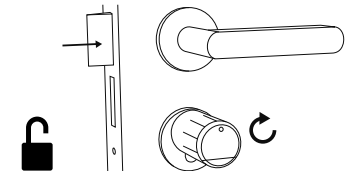
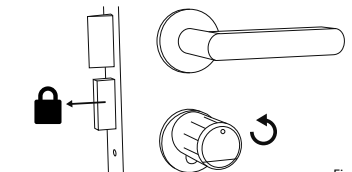

Fig. 85
Fig. 86
- 3 When the number combination entered is correct, the cylinder status symbol (⊙) will illuminate and the door can be unlocked (Fig. 85) or locked (Fig. 86).